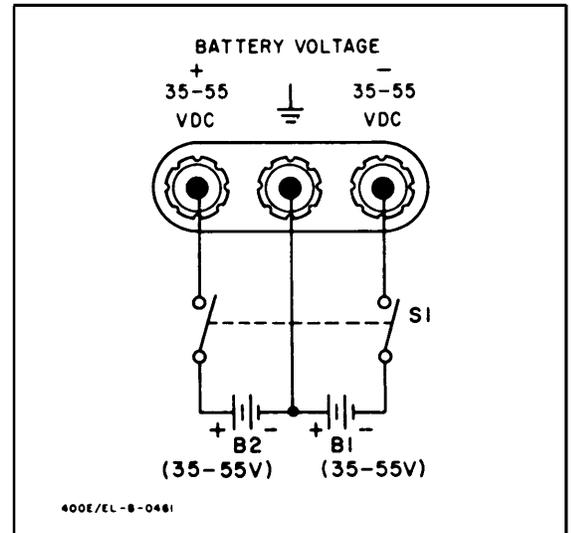

Figure 3-2. External Battery Connection
b. To operate the Model 400E/EL with battery power, connect two 35 to 55 volt batteries as shown in Figure 3-2. Since the front panel LINE switch has no effect during battery operation, the switch in Figure 3-2 can be used as a convenient method of disconnecting the batteries when the instrument is not in use.